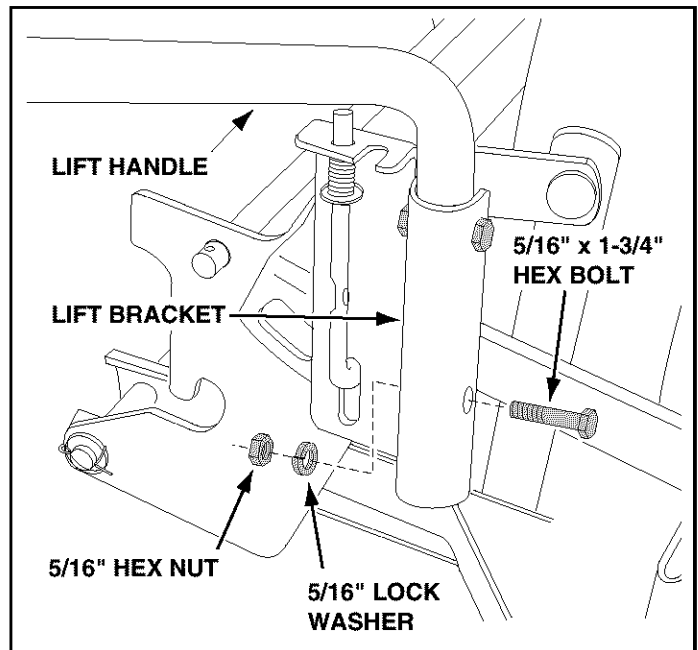

FIGURE 9
- Place the lift handle into the lift bracket on the right side of the snow thrower. Fasten the handle to the bracket using two 5/16" x 1-3/4" hex bolts, 5/16" lock washers and 5/16" hex nuts. See figure 9.